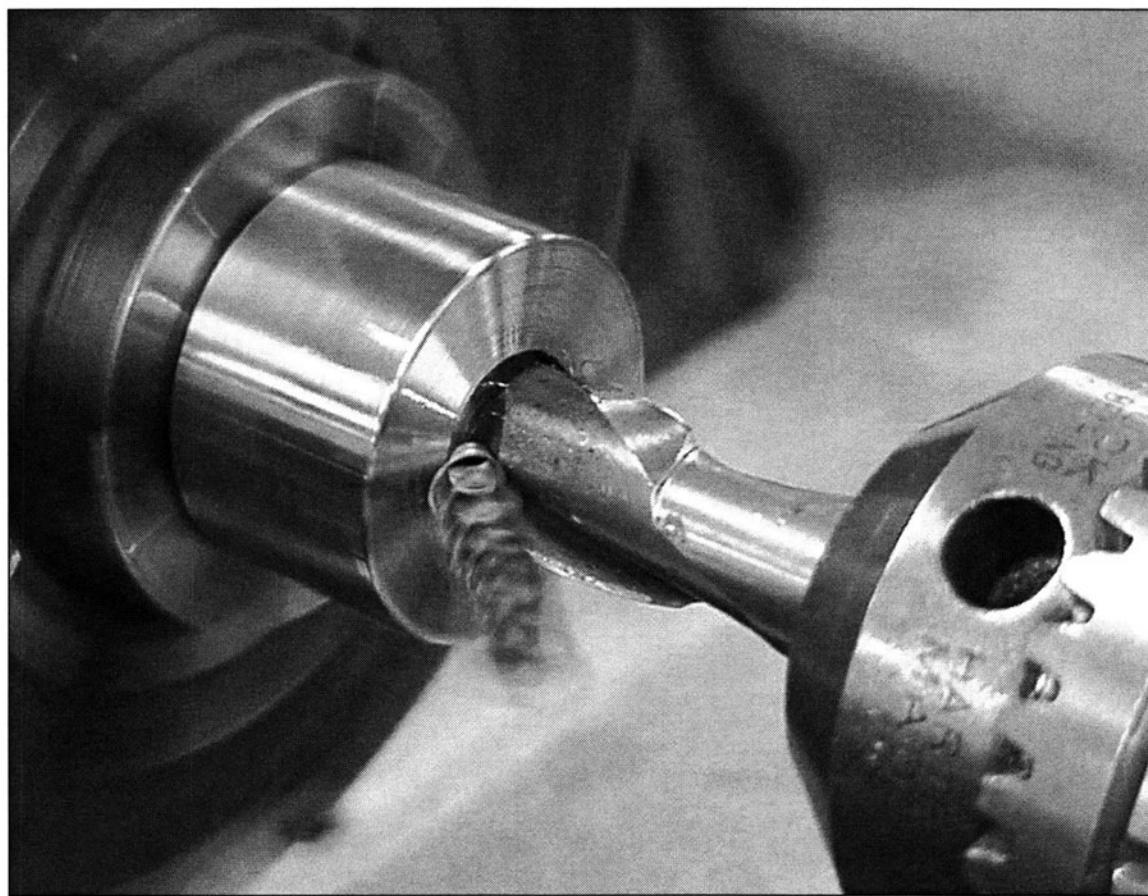

FIGURE 1-11 An end mill is used in the tailstock to rough out a counter bore.
29. *Use an end mill in the lathe to rough out a flat bottom hole. (See Fig. 1-11)*